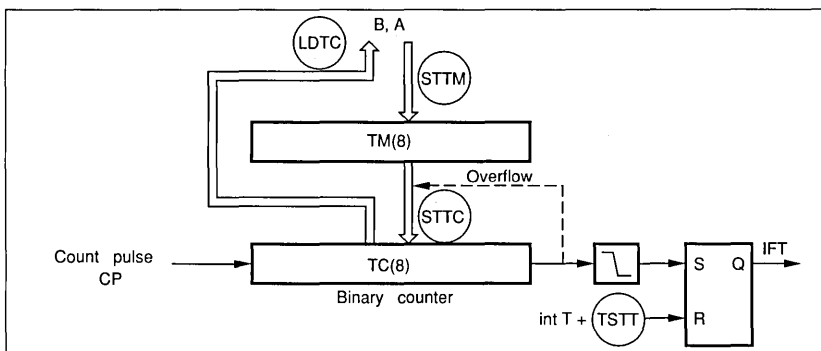

Fig. 5 Timer/Counter
The count register is an 8-bit incremental binary counter. It is incremented by one at the falling edge of its count pulse (CP) input. If the count register overflows, the timer interrupt request flag IFT is set, and the contents of the modulo register (TM) are loaded into the count register (See Fig. 5).